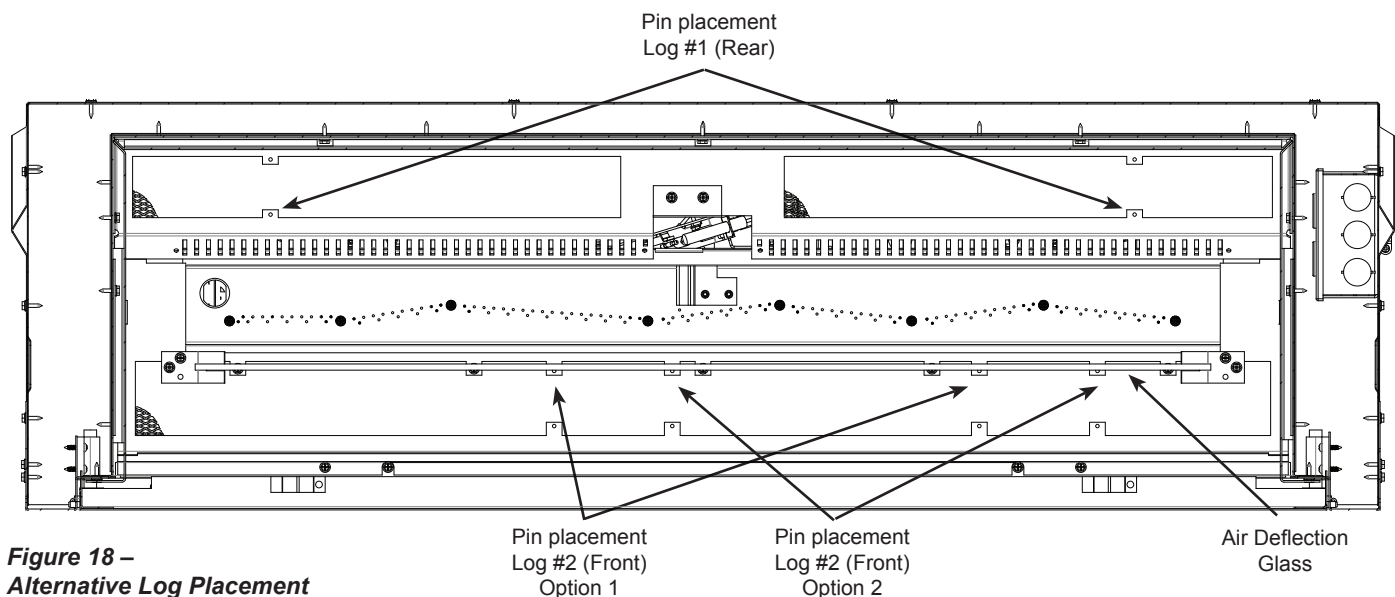

Figure 18 –
NOTE: Prior to installing the log set, you must first install the pin brackets on the burner. Fireglass and the air deflection glass should only be installed *after* the pin brackets are in place. The logs must then be placed in the unit after the fireglass and air deflection glass. If the optional logs are added after the air deflection glass and fireglass are in use, move the fireglass away from the areas in *Figure 18* and
1. Mount the four log support pin brackets using mounting holes and screws provided in locations indicated in *Figure 18*. Note that the front log can be mounted in two different positions. The pin brackets can be moved to accommodate the preferred log placement.
2. Place the large rear log (#1) by aligning the holes in the bottom of the log with the two pins at the back of the burner. *Figure 18*.